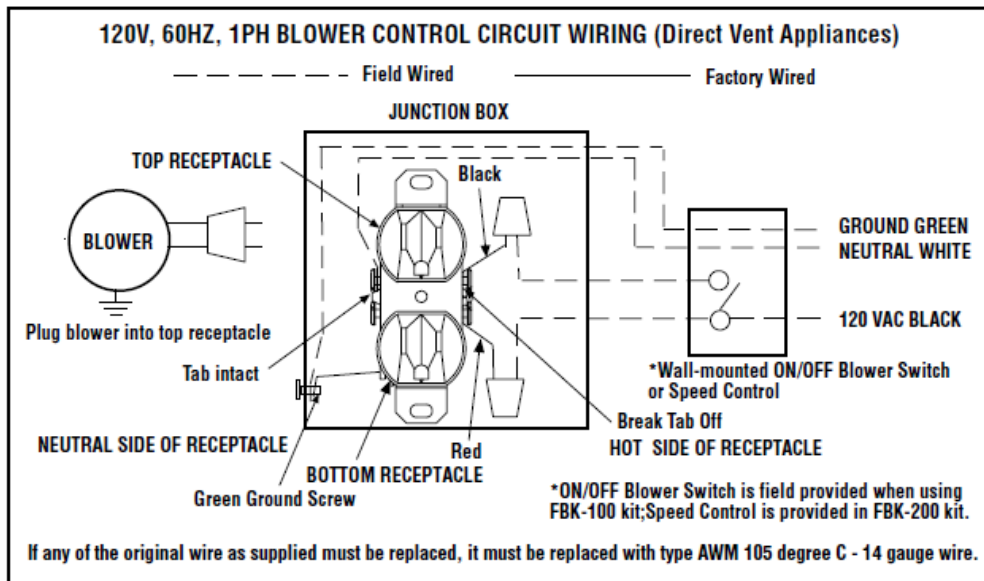

Figure 7
**Step 8.** Route a 3-wire, 120Vac power line to the ON/OFF switch (FBK-100 kits) or variable speed control (FBK-200 kits) as shown in **Figure 7**. Then route the wires to the unit's junction box. Remove the receptacle by removing the two securing screws. Connect the supply wires to the receptacle as shown in **Figure 7**, ensuring that the polarity (as determined by the colors of the wires) are exactly as shown. Reinstall the receptacle.